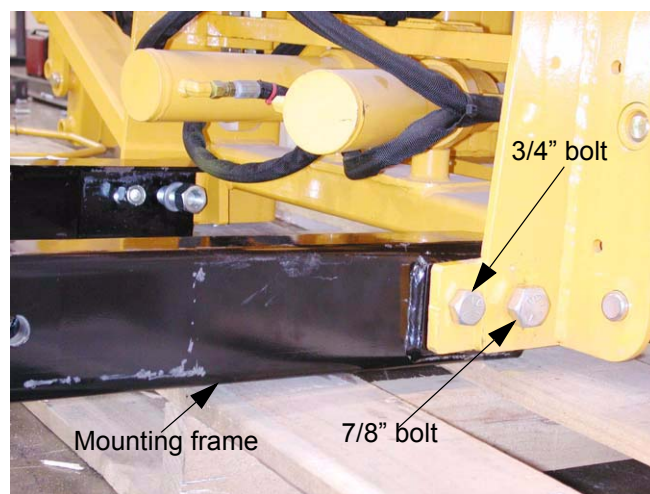

Figure 1.29
- 1.29. After correct fit is confirmed between the mounting frame, receiver, and latching bracket, attach the mounting frame to the backhoe. See Figure 1.29.